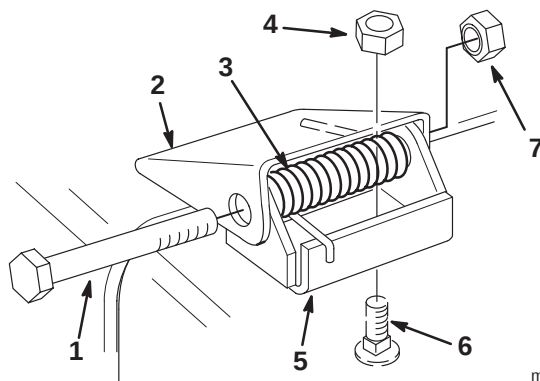

Figure 48
2. Remove the locknuts, bolts and springs holding the deflector mounts to the pivot brackets (Fig. 48).
3. If the pivot brackets need to be replaced, remove the carriage bolts and cone locknuts holding the old brackets to the top of the discharge opening, then install the replacement pivot brackets. Make sure the carriage bolt heads are on the inside of the cutting unit (Fig. 48).
4. Install the deflector mounts onto the pivot brackets with the bolts, springs and locknuts. Make sure the straight ends of the springs are positioned between the deflector mounts and the grass deflector (Fig. 48).
5. Tighten the locknuts until they contact the pivot brackets (Fig. 48).